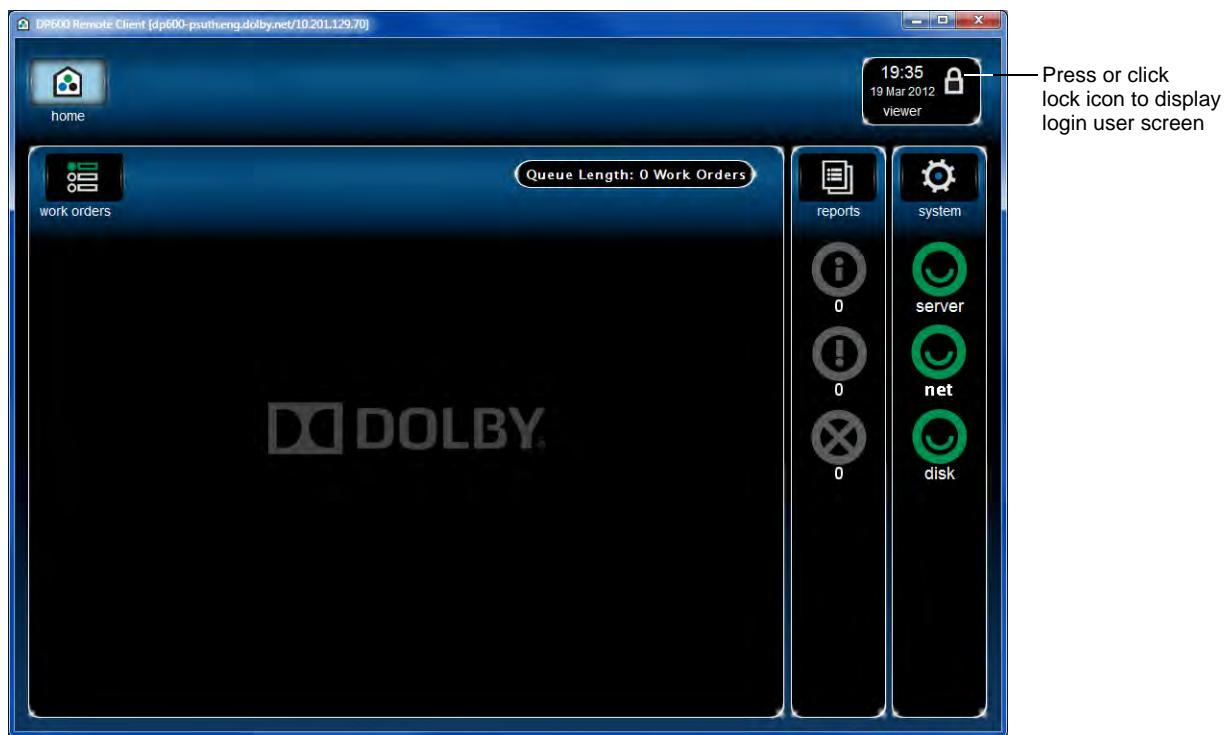

Figure C-1 Press or Click the Lock Icon to Display the Log-in Screen
1. Press or click the lock icon at the upper-right side of the **home** screen (next to the time and date), as shown in Figure C-1.